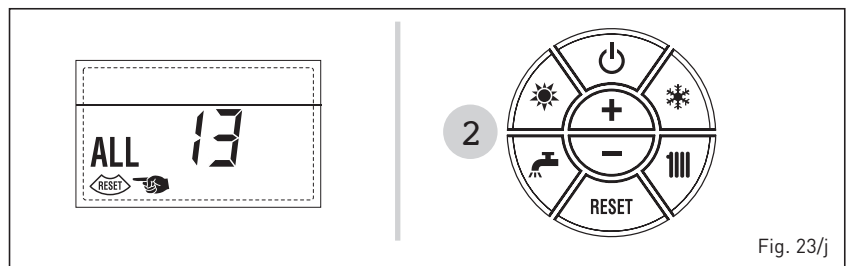

Fig. 23/j
– **TEMPERATURE SENSOR ERROR “ALL 14”(fig. 23/k)**